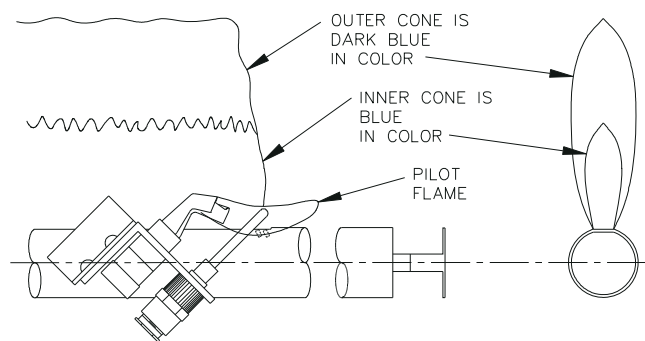

Figure 6: Standing Pilot Configuration and Flames
6. Check pilot flame. See Figures 6 and 7. The pilot flame should be medium blue covering approximately 3/8" to 1/2" (10 to 12 mm) of the sensing probe. If the flame is yellow and lazy, follow instructions TO TURN OFF GAS TO APPLIANCE (see Figures 2 and 3), and contact qualified service agency.
7. Check main burner flames. See Figures 6 and 7. The flames should have clearly defined inner cones approximately 1 1/2" (40 mm) high and should have a very sharp blue color characteristic. If the flame is yellow and lazy, follow instructions TO TURN OFF GAS TO APPLIANCE (see Figures 2 and 3), and contact qualified service agency.